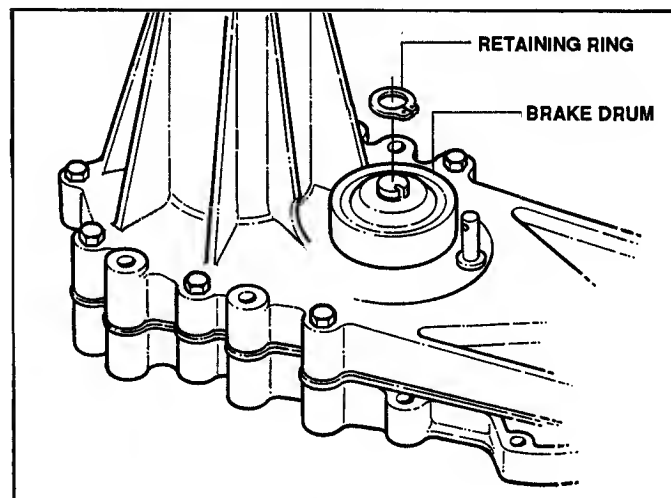

FIGURE 10.3
3. Remove brake drum by removing retaining ring. Pull drum off of brake shaft and inspect drum for wear or damage. Replace if necessary. See Figure 10.3.